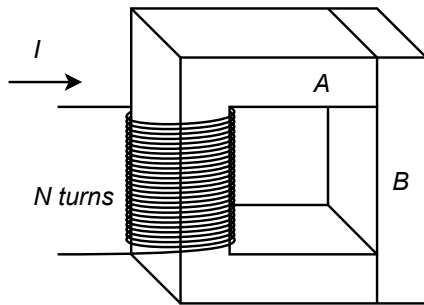

Figure 10.2
7. In the magnetic circuit shown in Figure 10.2, assume the cross section is 1 cm by 1 cm. Section A is sheet steel with a path length of 6 cm. Section B is cast steel with a length of 2 cm. There are 500 turns on the winding. Determine the current to establish a flux of $5\text{E-}5$ webers.
8. In the magnetic circuit shown in Figure 10.2, assume the cross section is 1 cm by 1 cm. Section A is sheet steel with a path length of 6 cm. Section B is cast steel with a length of 2 cm. Determine the number of turns on the coil to establish a flux of $6\text{E-}5$ webers with a current of 50 mA.